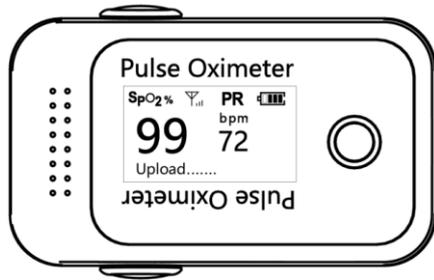
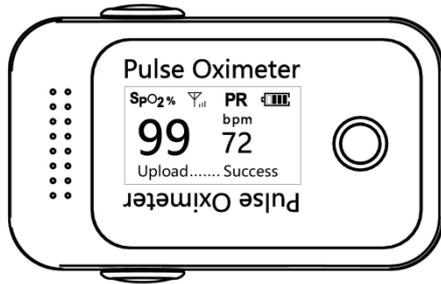
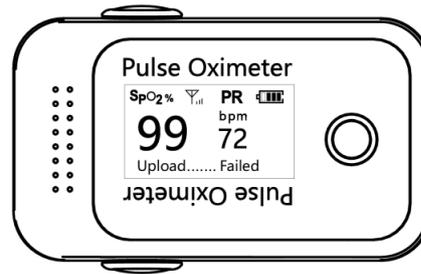

Figure 11
Figure 12
Figure 13
4. When the measurement is finished and the network is available, the upload procedure will be started automatically, as shown in **Figure11**. It will end with “Success” or “Failed,” as shown in **Figure12** and **Figure13**. If the upload failed, the current measurement record will be saved automatically and re-uploaded next time.